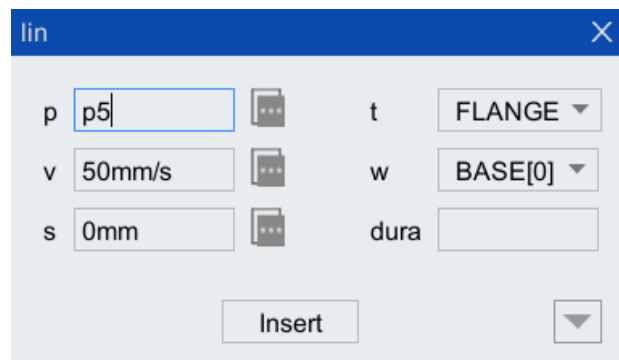

Figure 10-12 The lin instruction configuration interface
- Step6. Click [lin] to pop up the lin configuration interface (as shown in Figure 10-12), complete the parameter configuration, and click <Insert> to generate the first track end-point instruction.